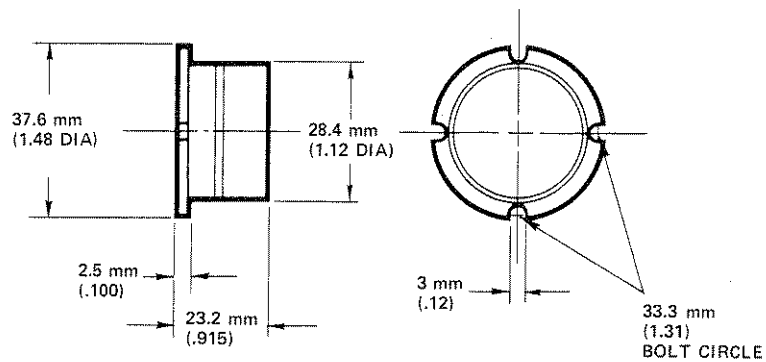

Figure 2-20. 10703A Retroreflector Specifications
- c. 10703A Retroreflector Specifications, see Figure 2-20.